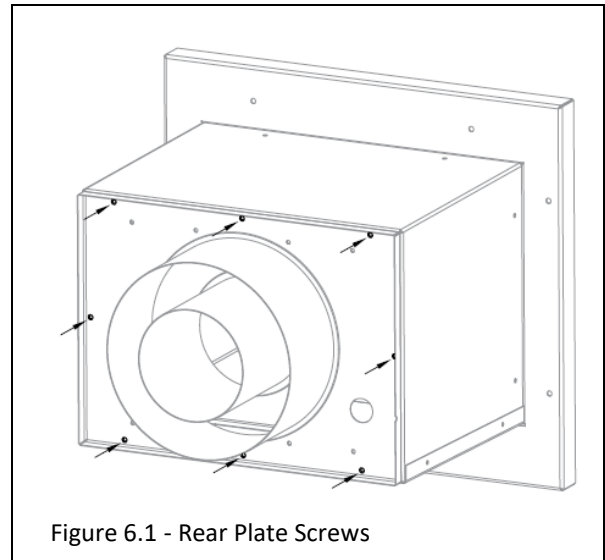

Figure 6.1 - Rear Plate Screws
1. Remove the (4) screws securing the front cover to the Kozy Power Vent.
2. Remove the eight screws securing the back assembly to the cap. See Figure 6.1.